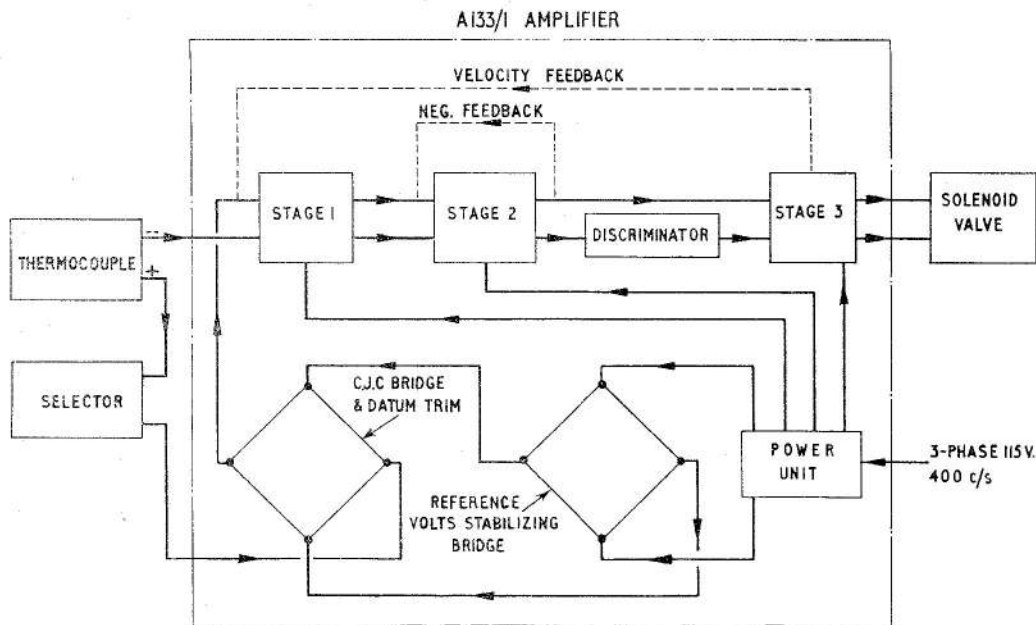

Fig. 3. Block schematic diagram of amplifier
13. A block schematic diagram of the amplifier stages is shown at fig. 3 and a complete circuit diagram at fig. 7. In order to simplify the circuit diagram, the connections have